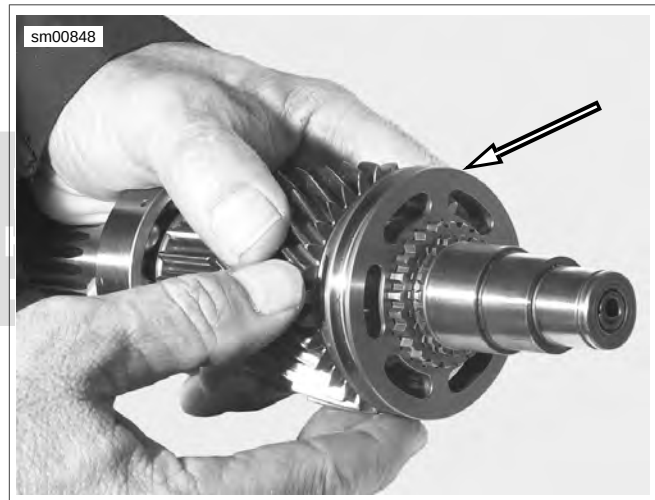

Figure 6-147. Shift Fork Slider
3. See Figure 6-147. Install shift fork slider.